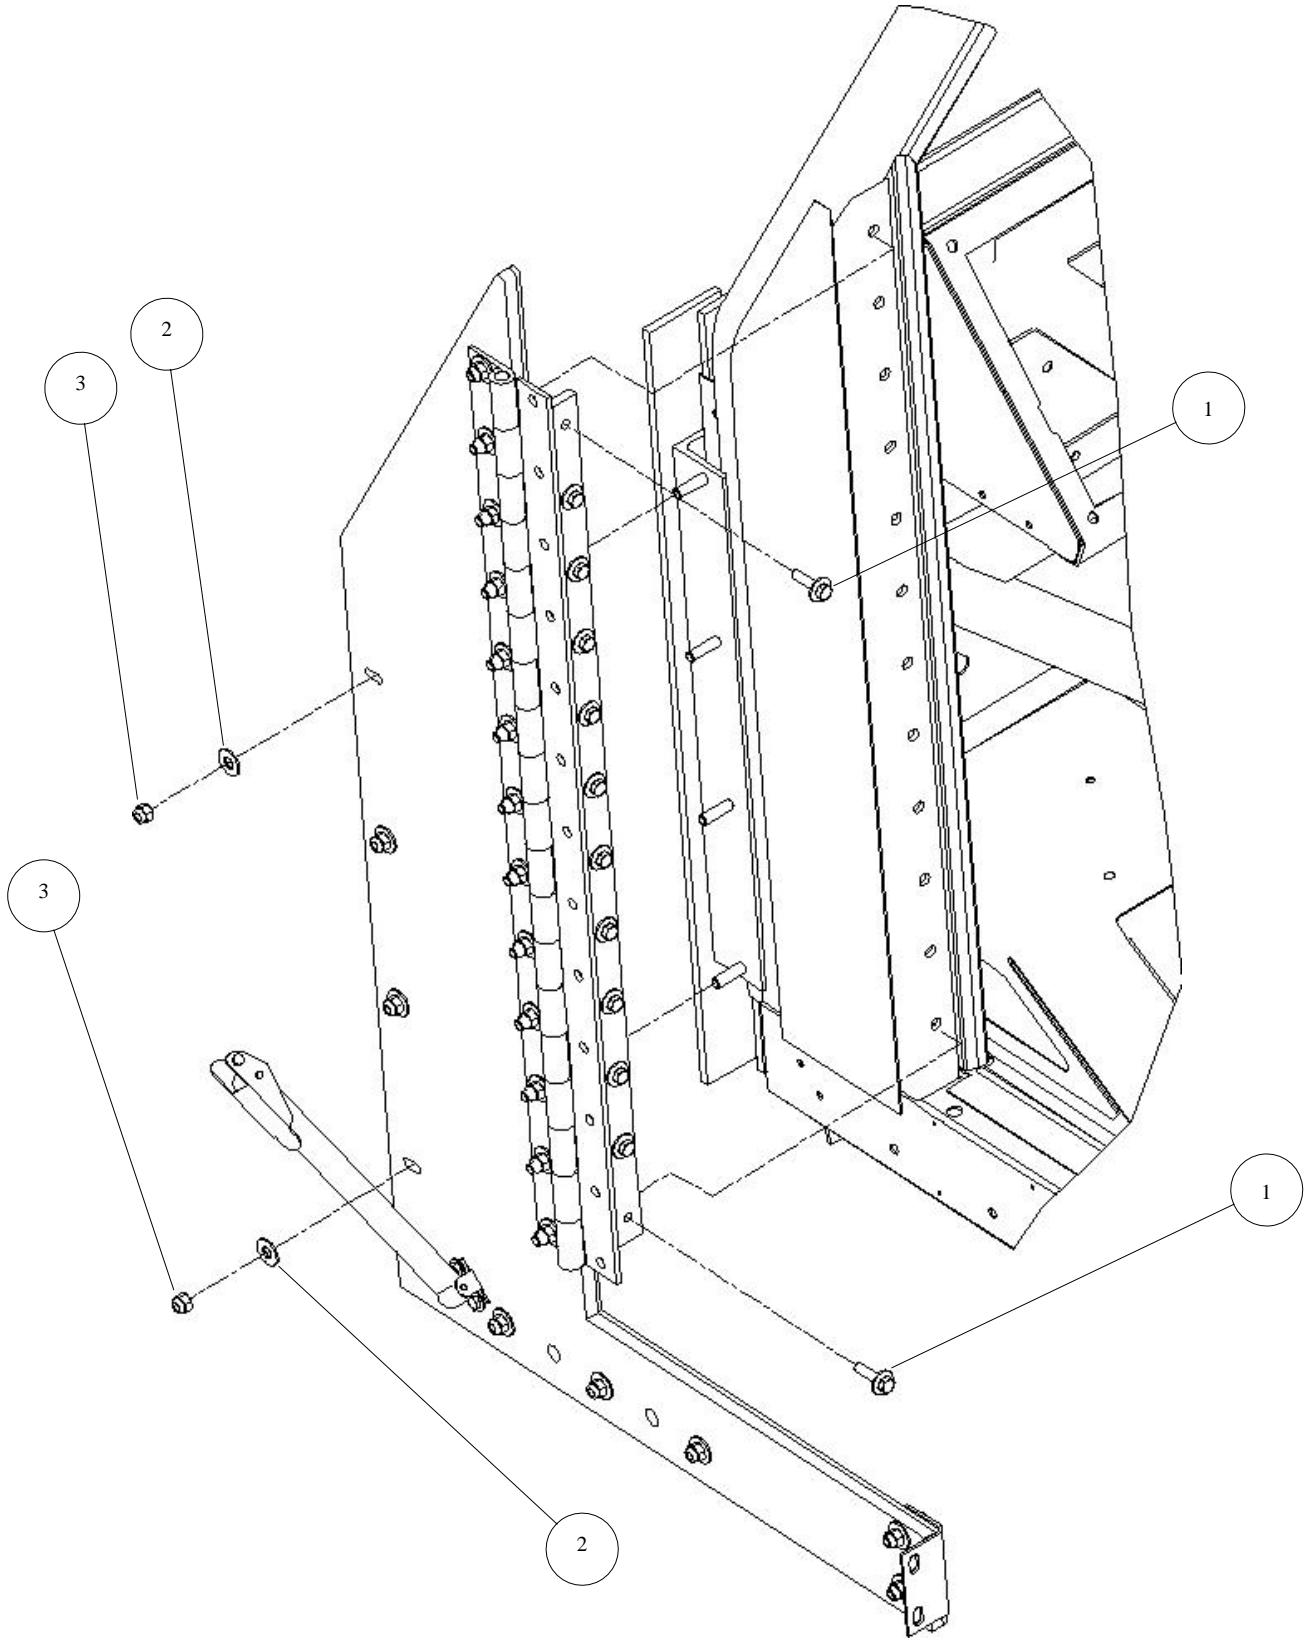

Figure 3-60. Left Side Panel Assembly Installation.
1. Install left side panel assembly as follows (see Figure 3-60):